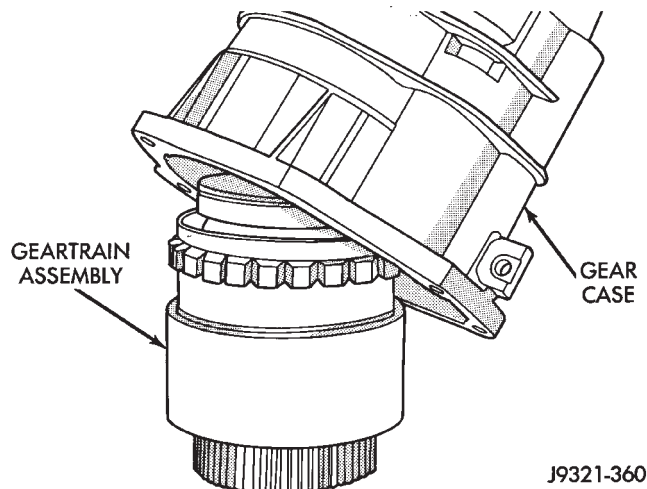

Fig. 195 Removing Gear Case From Geartrain Assembly
(6) Lift gear case up and off geartrain assembly (Fig. 195).